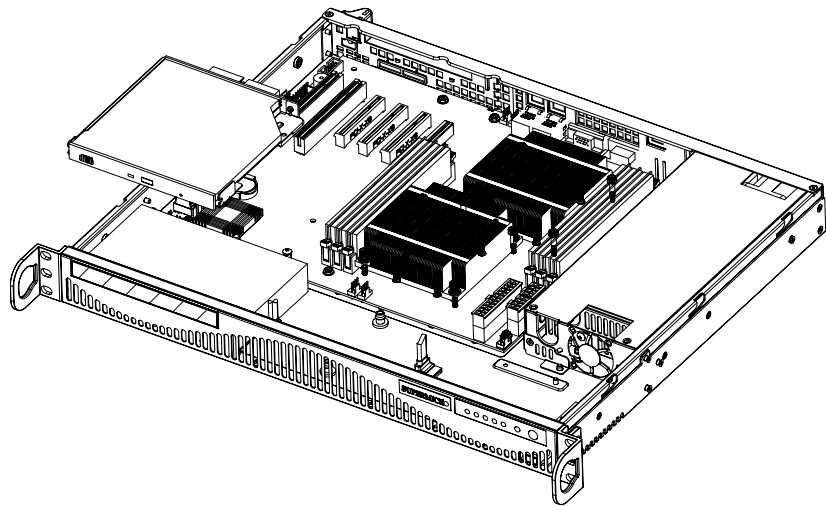

Figure 3-11. Installing/Removing the DVD-ROM Drive
4. Remove the screws that secure the DVD-ROM drive to the chassis and then lift the drive out of the chassis. See Figure 3-11.